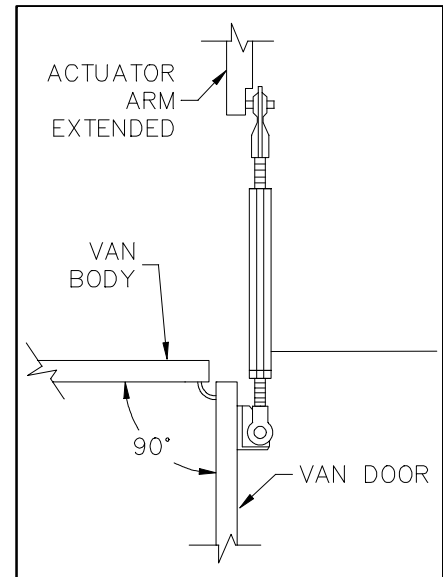

FIGURE 2-4: BRACKET LOCATION
2. Refer to **Figure 2-4**. With power, move actuator arms to their extended positions and open doors 90° or greater.